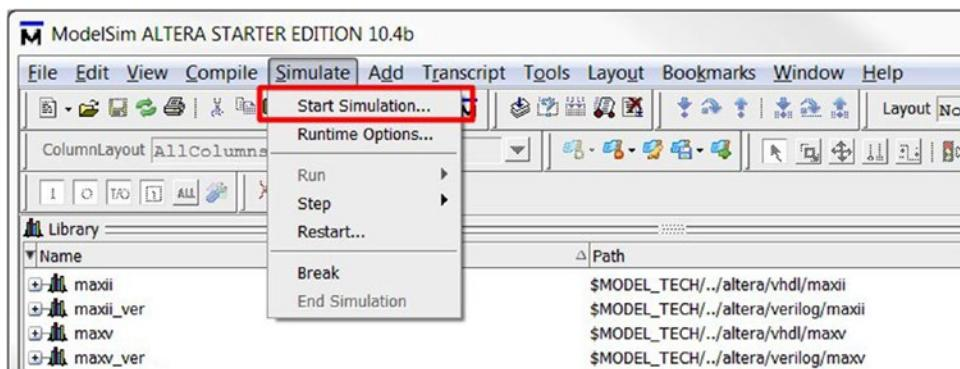

Figure 4-43. Recompile bemicro_max10_top_vhd_tst
9. Click **Simulate ▶ Start Simulation...** in the ModelSim menu. It will open the Start Simulation dialog (Figure 4-43).